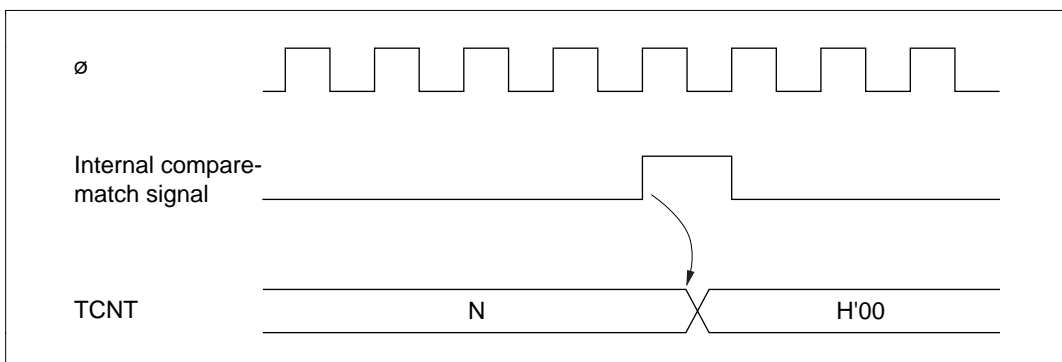

Figure 9-6 Timing of Compare-Match Clear
(3) Timing of Compare-Match Clear: Depending on the CCLR1 and CCLR0 bits in the TCR, the timer counter can be cleared when compare-match A or B occurs. Figure 9-6 shows the timing of this operation.